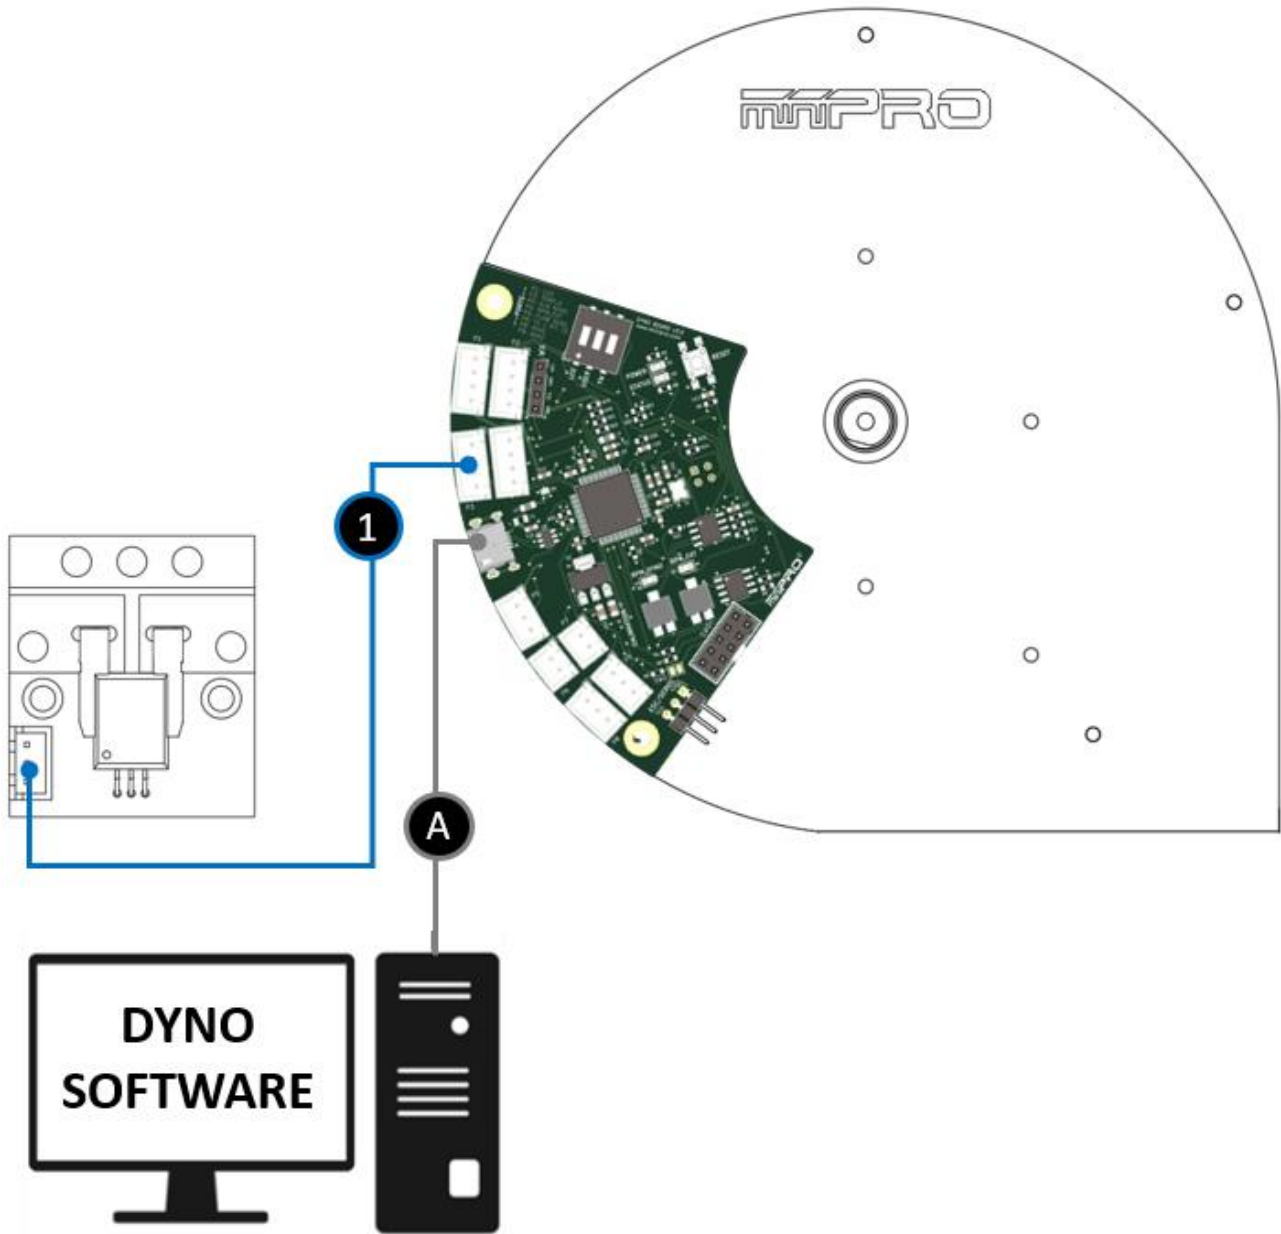

Figure 3: Dyno Controller Board V3.0 and later – Dyno to Board Wiring diagram
Warranty voided if it's not installed according to Figure 3.
12. Make sure that your sensor cable is connected to P3 (see Figure 3).